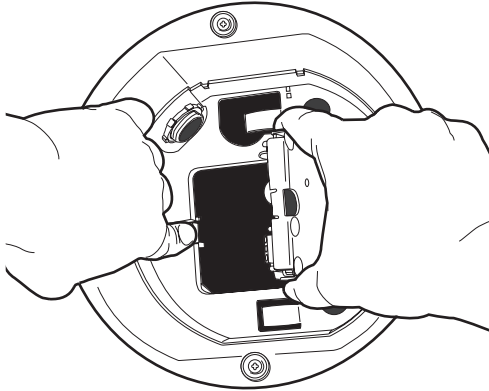

Figure 7. Back Box Door
1. Open the hinged door to the back box by pushing the tab lock toward the wall of the unit and lifting the door open (refer to Figure 7).